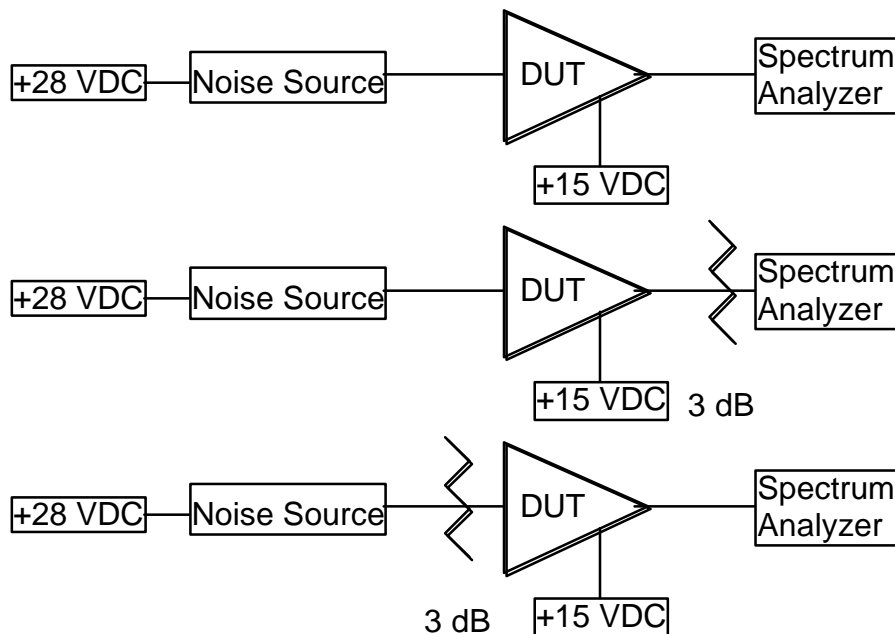

Figure 2
13. Hook up the amplifier and noise source as shown at the top of Figure 2 below.